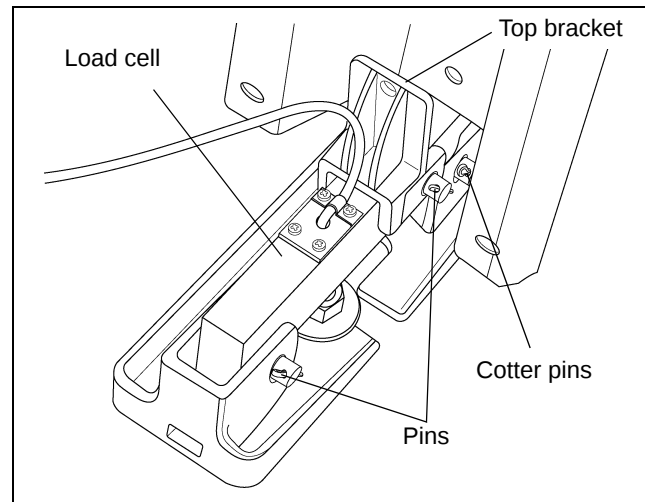

Figure 4I Install Load Cell
2. Place pins through the holes and fasten with a cotter pin. (See Figure 4I.)